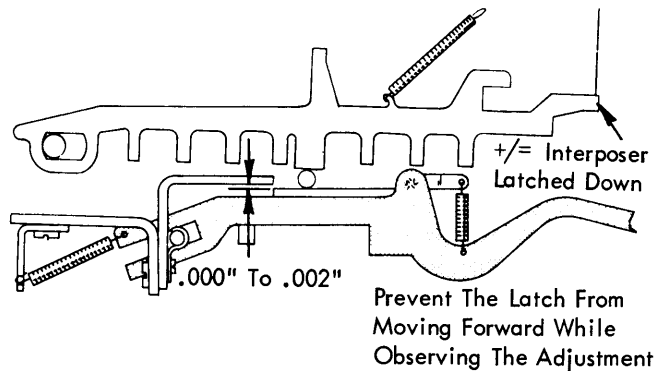

FIGURE 8. Cycle Clutch Release Point Adjustment
7. Cycle Clutch Release Point - Adjust the cycle clutch keeper vertically for .000" to .002" clearance between the pawl and the keeper with the +/- interposer latched down. The clearance must be observed at the point of unlatching because it increases as the latch moves forward (Fig. 8).